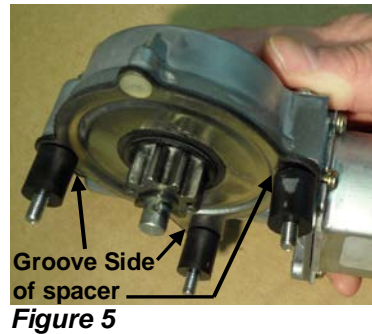

Figure 5
**Step 3:** Installing the new motor. Insert the three 5/16 hex bolts into the motor mounting holes and put one plastic motor spacer on each bolt on the backside of the motor. The spacer has a groove on one side that will need to be aligned into the motor bolt hole. The motor will have to be installed while keeping the three bolts from falling out of the mounting holes and the three plastic motor spacers from slipping off the end of each bolt. **See Figure 5.**